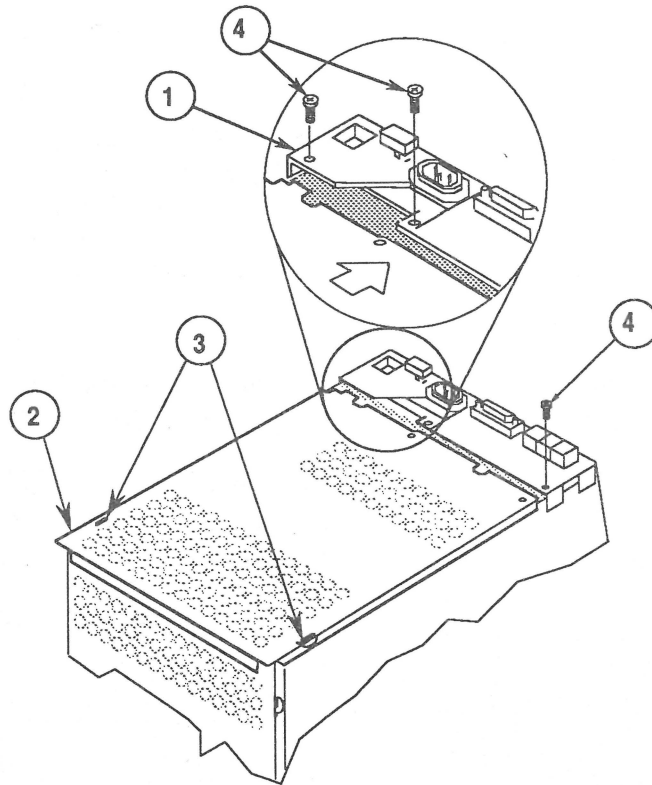

FIGURE 4
2. Slightly lift the two metal brackets (Figure 4, #1), and slide the notched end of the rear panel of the EMI shield (Figure 4, #2) under the brackets.
3. Insert the two panel tabs (Figure 4, #3) into the two slots in the chassis, and push the panel down to seat it on the chassis.
4. Replace the three screws (Figure 4, #4).